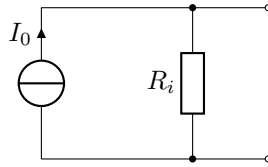

Figure 3: Real Current Source
There, V_A is the early voltage of the MOSFET and K_n the *transconductance coefficient* of MOSFET Q_n . Like any other power source, the circuit can be modeled as a real power source as shown in figure 3. In this circuit, I_0 represents the short circuit current of the source and R_i the inner resistance.
- Simulate the circuit and vary the load resistance R_L . Find a way to determine the values I_0 and R_i of the corresponding real current source as shown in figure 3.